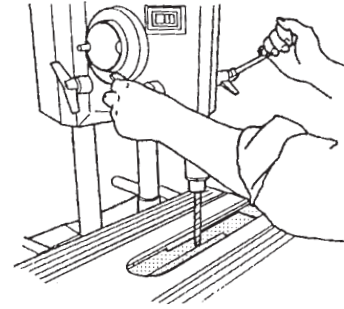

Figure C-17
10. With the drill bit above the table opening, use the quill feed to extend the bit 1/2" into the table opening, as in Figure C-17.